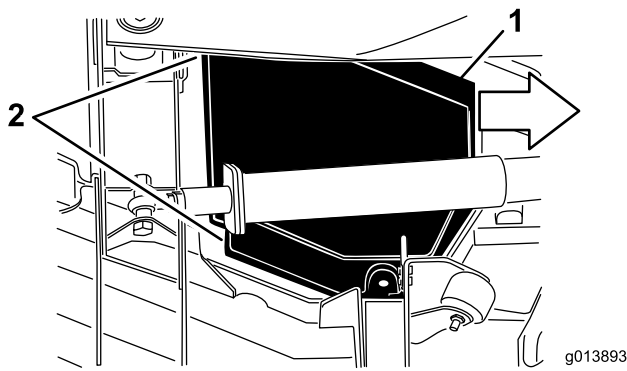

Figure 46
5. While lifting the cover, slide it toward the traction unit approximately 2.5 cm (1 inch), to disengage the outer cover edge from the deck (Figure 46).